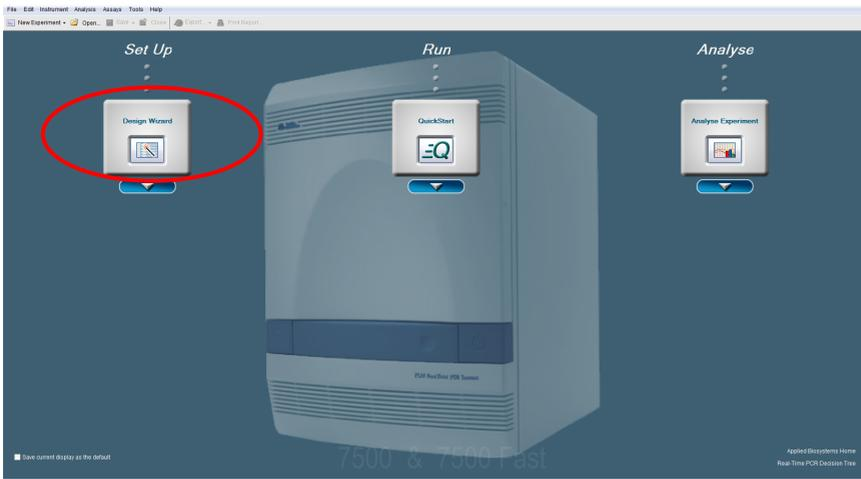

Figure 24. Starting a new experiment.
10. If you are not using a template file, select **Advanced Setup** by clicking the arrow below **Design Wizard** (Figures 24 and 25).